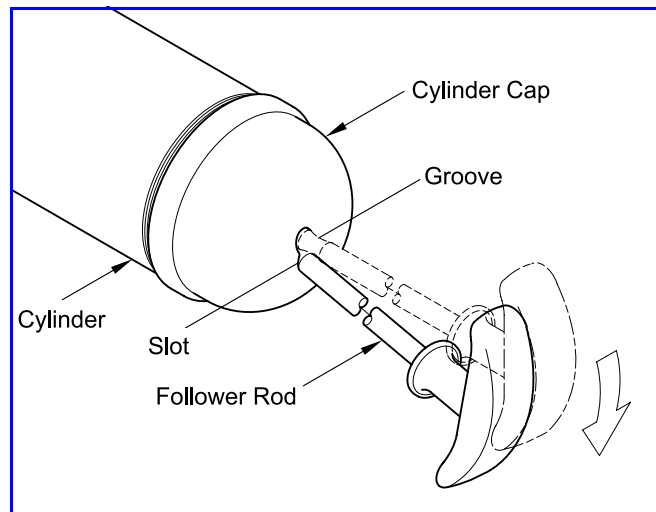

Figure 2 Follower Rod Engaged in Cylinder Cap Slot
3. Engage the groove* in the Follower Rod with the slot in the Cylinder's Cap. See **Figure 2**.
4. Engage the groove in the Follower Rod with the slot in the Cylinder's Cap. See **Figure 2**.